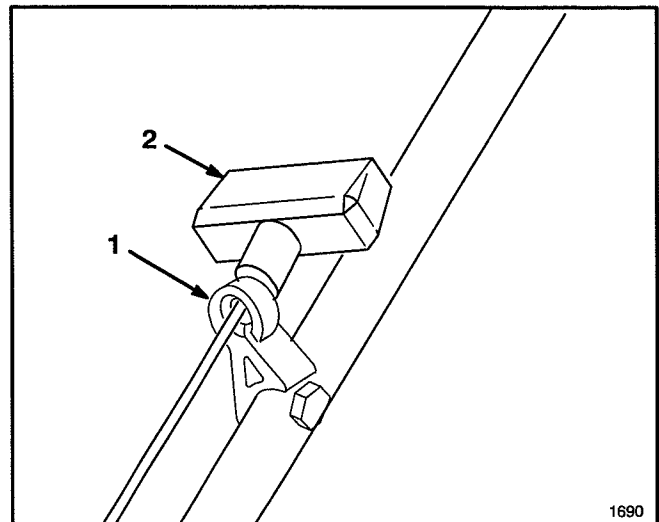

Figure 7
1. Pull the starter rope through the rope guide on the handle (Fig. 7). To make the rope easier to loop, squeeze the blade control bar on the handle to release the blade brake.
1. **CHECK OIL LEVEL**—Maintain oil level between ADD and FULL range as shown on dipstick (Fig. 7).